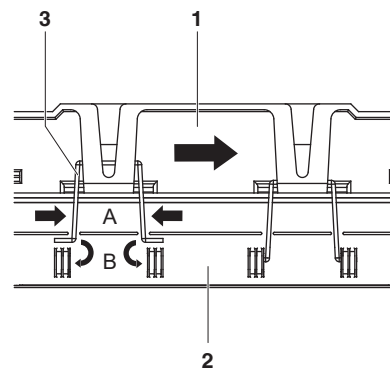

Fig. 7
Install the suction grille (See Fig. 7)
- (1) Remove the transportation tape which is securing 2 suction grille hinges in place.
- (2) Attach the suction grille to hinges by pressing the hinge and inserting both ends of hinge to holes on the suction grille. (See Fig. 7)
- (3) Make sure that the suction grille is attached to the decoration panel properly by 2 hinges.
- (4) Close the suction grille by reversing the procedure shown in "Preparing the decoration panel for installation" on page 1.